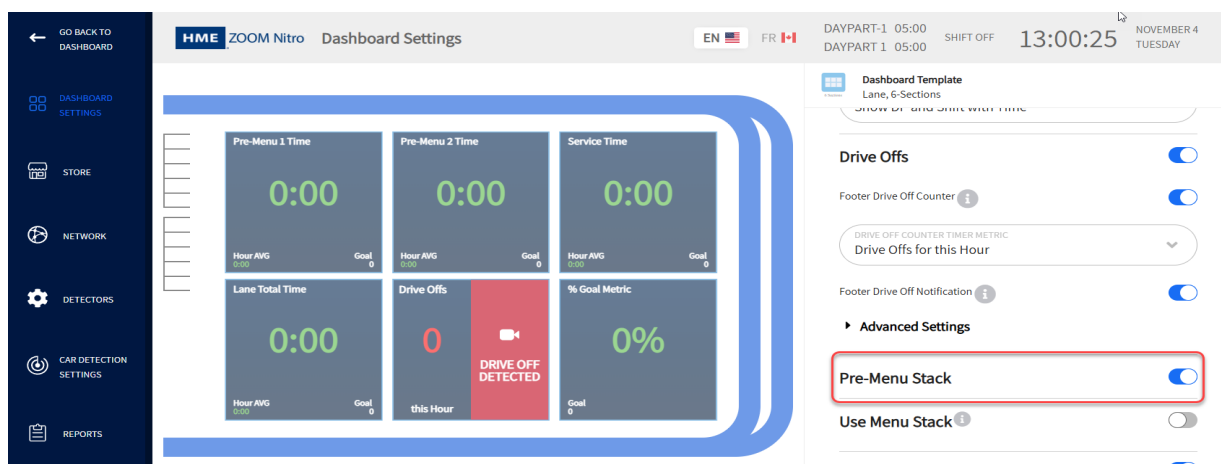
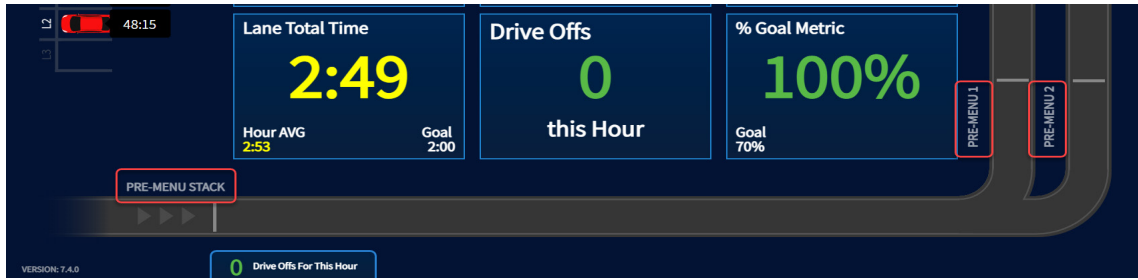
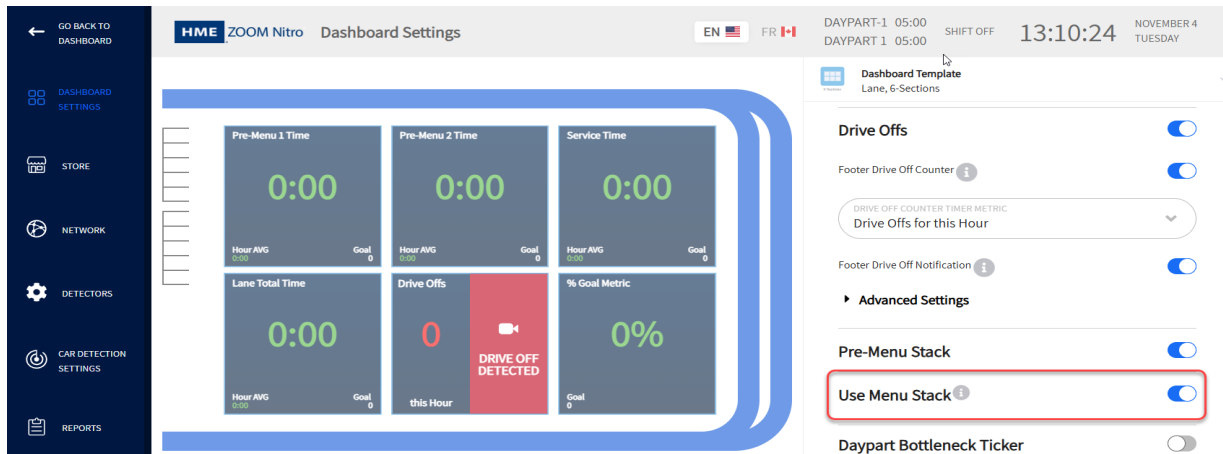
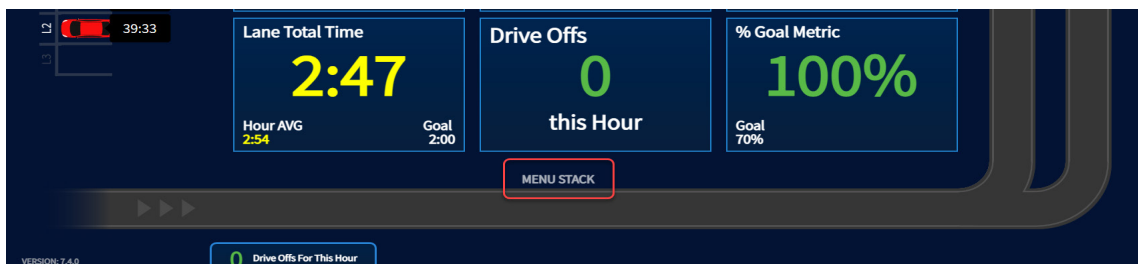

Fig. 3.11
Fig. 3.12
Fig. 3.13
Fig. 3.14
The Pre-Menu Stack is an area of the drive-thru lane where vehicles can still pull out and drive off before reaching the Pre-Menu ordering point. When this feature is enabled (Fig. 3.11), it is displayed on the Dashboard along with the Pre-Menu as part of the drive-thru lane (Fig. 3.12).
Use Menu Stack is enabled by default, see Fig. 3.13, it combines Pre-Menu Stack and Pre-Menu into a single label called **Menu Stack** (see Fig. 3.14). This toggle is tied to the Pre-Menu Stack toggle above it: if you disable Pre-Menu Stack, the Menu Stack (if enabled) is also disabled, and if you enable Use Menu Stack, it will also enable the Pre-Menu Stack (if disabled). Toggle the switch to disable if you would prefer to see both Pre-Menu Stack and Pre-Menu labels displayed separately on the Dashboard, as shown in Fig. 3.12.
The individual stalls can be oriented vertically or horizontally. Horizontal is the orientation shown in Fig. 3.17, (red car in Fig. 3.14). To change orientation, go to “Independent Detectors” on page 61.
<div style="border: 1px solid #ccc; border-radius: 10px; padding: 5px; width: fit-content;"> <small>DAYPART/SHIFT OPTION</small> Show DP with Time ▼ </div>	<p>DAYPART/SHIFT OPTION: Select different combinations of Daypart (DP), Shift, and Time to display at the top of your Dashboard screen (see Fig. 3.13).</p>
Menu Stack Car Count: This is the total number of vehicles in the combined Pre-Menu and Pre-Menu stack (Menu Stack must be enabled on the dashboard to receive an accurate count, see Fig. 3.13).